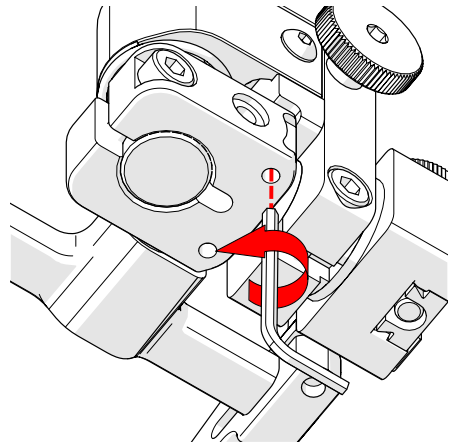

Fig. 142 - Lower 90° stop post
7. Locate the recessed M3 screw (stop post) on the bottom of the probe holder. Unscrew the stop post using a 1.5 mm hex wrench until it has cleared all obstructions. Do not remove the stop post (Fig. 142).